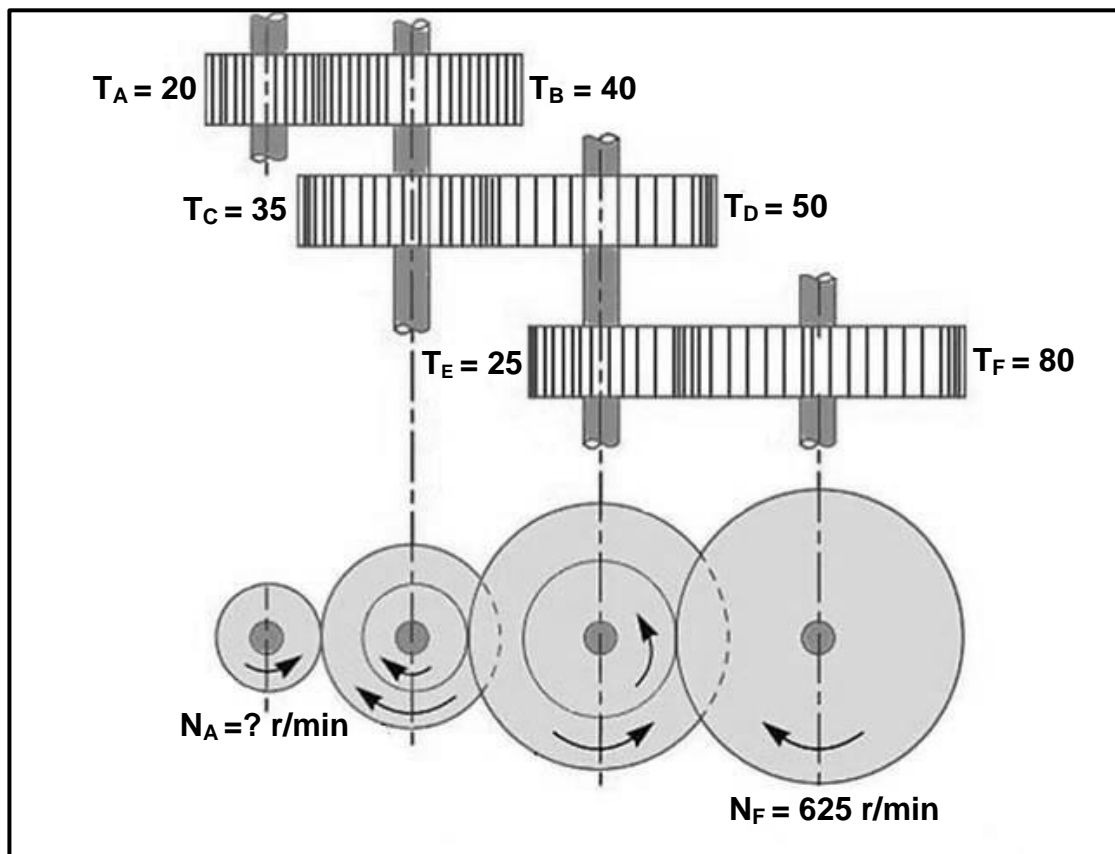

FIGURE 11.5
- 11.5 FIGURE 11.5 below shows a gear drive system. The number of teeth for each gear is shown in the diagram. Driver gear **A** is fixed on the input shaft. The rotational frequency of the output shaft is 625 r/min. Answer the questions that follow.
- 11.5.1 Identify the type of gear drive system shown in FIGURE 11.5. (1)